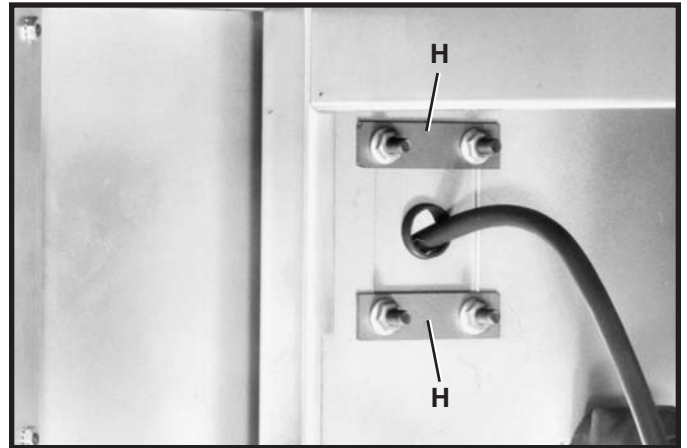

Fig. 11
2. Position switch mounting bracket (B) Fig. 10, so holes (C) are over hole (D) in shaper cabinet (E), then fasten bracket (B) to cabinet (E) using four truss head screws (F) Fig. 9, flange nuts (G) and two switch adapter plates (H). **NOTE: Switch adapter plates (H) are to be positioned inside the shaper cabinet as shown in Fig. 11.**